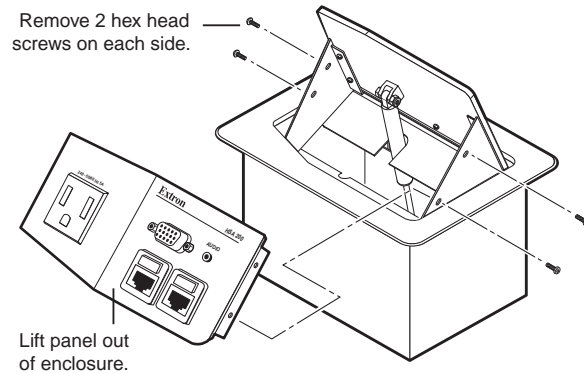

Figure 3-3 — Removing the front panel
- Remove the four 1/16" hex head screws on the right and left sides of the front panel (figure 3-3). Retain the screws. Lift the panel away from the enclosure.
NOTE Figure 3-3 shows an HSA 200 model. Removing the front panel from an HSA 222 is an identical procedure.